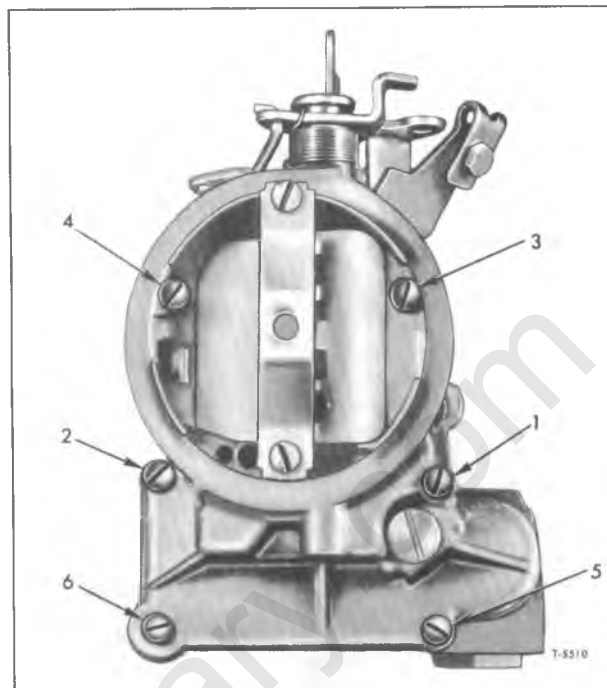

Figure 22—Air Horn Tightening Sequence
11. Install air horn to float bowl by lowering gently on to float bowl until seated. Install three long and three short air horn to float bowl attaching screws. Tighten screws securely using correct tightening sequence as shown in figure 22.